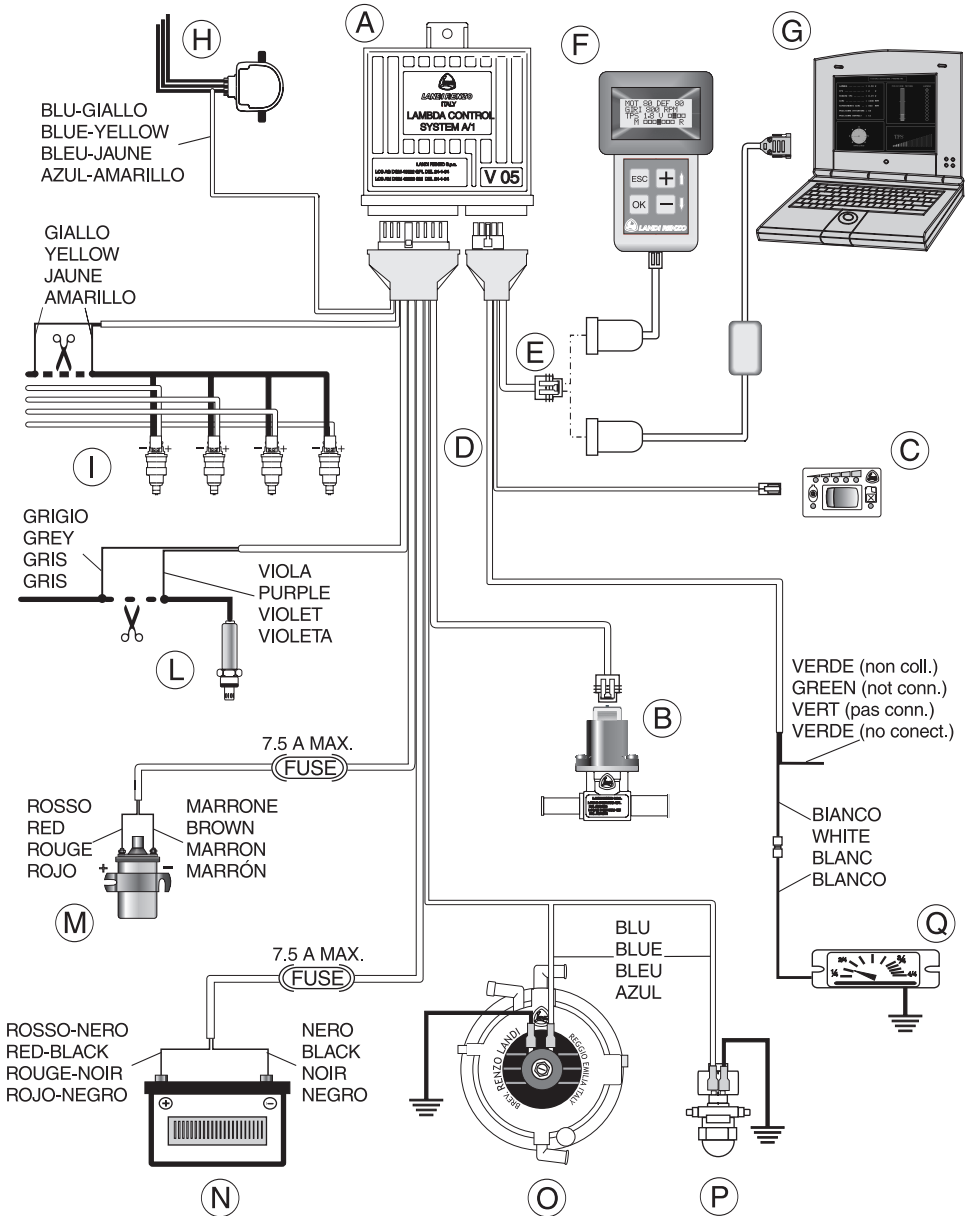

Fig. 1
6.1 RED-BLACK AND BLACK WIRES (It. N Fig. 1 and 2) COMPUTER LCS A1 V05 POWER SUPPL To deliver a continuous power to the system, made following connections of LCS A1 V05 wiring:
6.4 BROWN WIRE (It. M Fig. 1 and 2) ENGINE RPM SIGNAL CONNECTION
6.5 RED WIRE (It. M Fig. 1 and 2) 12V IGNITION KEY CONNECTION